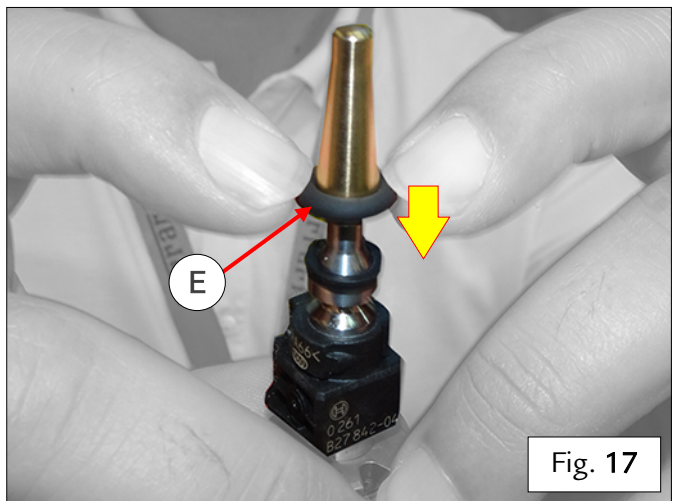

Fig. 17
- Push the O-ring (E) gently into its seat. After fitting the ring, remove the fitment guide tool - Fig. 17.